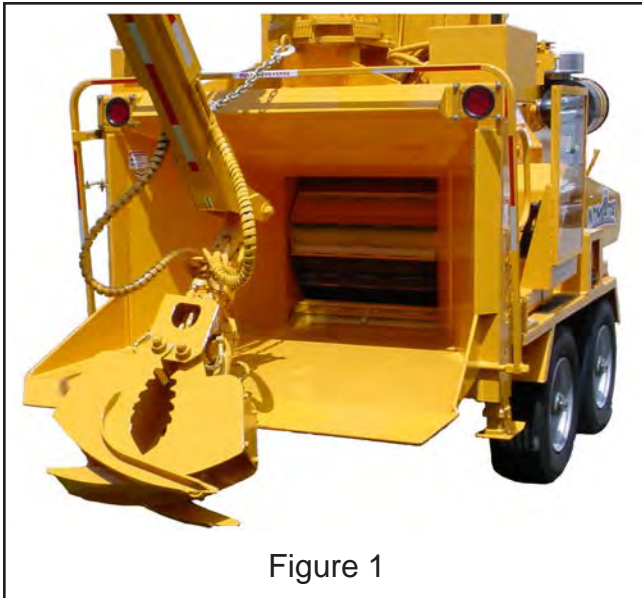
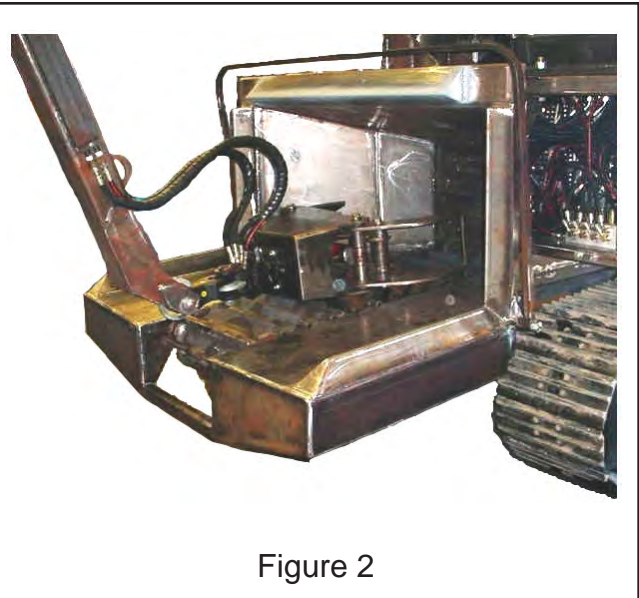

Figure 1
Figure 2
Install the cable to pull and feed from the bottom of the winch drum (See figure 2). Remove excess bolt length on cable bolts after cable is secured to the spool.
5. Make sure everyone is clear and then retract the clutch lock pin and then pull the clutch handle up to engage the winch clutch (See Figure 1). Make sure handle is locked in position.
The chipper hood engine disable plug is located on top of the chipper hood (see figure 1). The chipper engine disable plug is made up of two parts: an electric socket and a plug connector (see figure 2). The electric socket is bolted to the chipper engine disable plug mount bracket (see figure 3) and the plug connector is attached by a cable to the hood pin (see figure 4).
The spring lock is located on the side of the chipper hood. The top of the spring lock should be directly behind the hood pin washer when the hood pin is properly installed in place holding the chipper hood in the closed position (see figure 1).
With the chipper hood shut and hood pin in place the spring lock helps keep the hood pin from sliding out or from being removed if the chipper disc is turning. There is a shaft cam block installed on the chipper shaft which will not allow the spring lock to be pulled down if the chipper disc is turning (see figure 2). When the chipper disc is turning, if the spring lock was to be pulled down or recessed it would simply hit the shaft cam block bouncing the spring lock back into position not allowing for the removal of the hood pin.
- 4) Tuck grapple onto infeed hopper as shown in Figure 1 to help prevent damage to the hydraulic hoses and fittings. If the machine is equipped with a conveyor option, tuck grapple onto infeed hopper as shown in Figure 2. **Make sure the fittings and hoses are not in a pinched or wear position for transportation.**
- 5) Securely attach transport chain to the jib boom as shown in Figure 1.